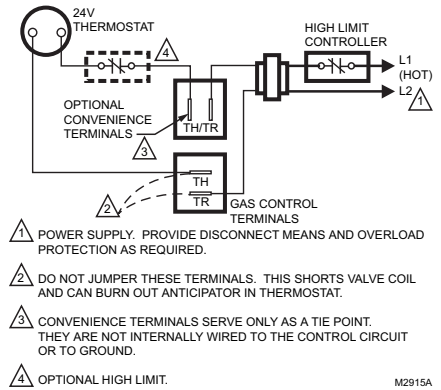

Fig. 9. Wiring connections for V8200 and VR8200 controls.
2. Connect control circuit to gas control terminals. (See Fig. 9 or 10).